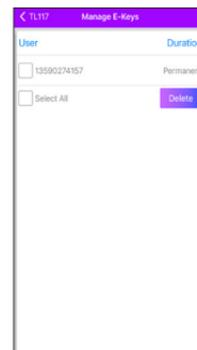

Fig. 28
- Step 3.** Now the E-Keys User(s) can't open the lock via "Turbolock Plus" app any more (Fig. 28).
- Step 2.** Log in the TurboLock Plus app with your TurboLock account to enter the User View (Fig. 28).